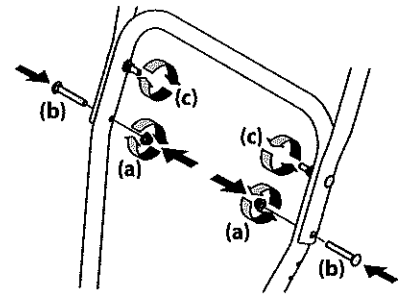

Figure 2-5
6. Attach the two carriage screws (b) and nuts (a) removed in Step 2. Finish securing the handle by tightening the top two nuts (c) loosened in Step 2. See Figure 2-5.